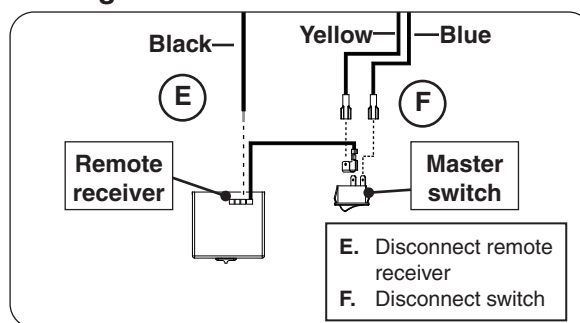

Fig. 48-3 Disconnect receiver & switch wires
3. Locate the remote receiver on the control panel, remove the 2 hex screws using a $\frac{1}{4}$ " nut driver, then pull the receiver (and bracket) out of the control panel. Disconnect the receiver and switch wires as shown in Fig. 48-3, E-F. The valve box can now be pulled away from the unit. Proceed to step 4 on the next page.